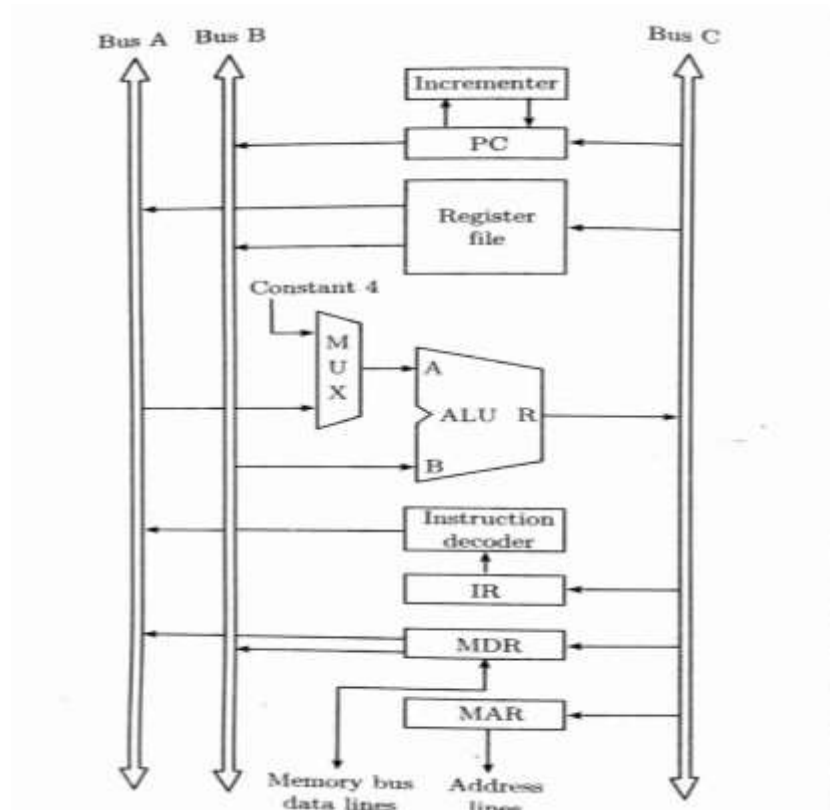

Fig 2: Three-bus Organization of the datapath inside a processor.
- Fig 2 shows three-bus organization of CPU. All general purpose registers are combined into a single block called a **register file**.